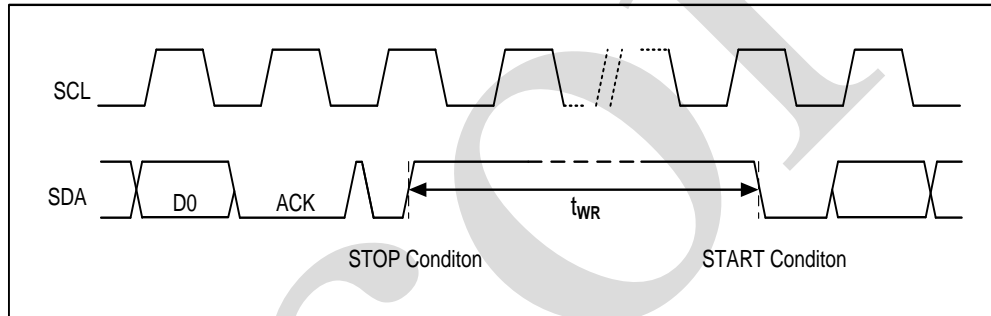

Figure 4-6
4.1.8、Write Cycle Timing (see Figure 4-6)